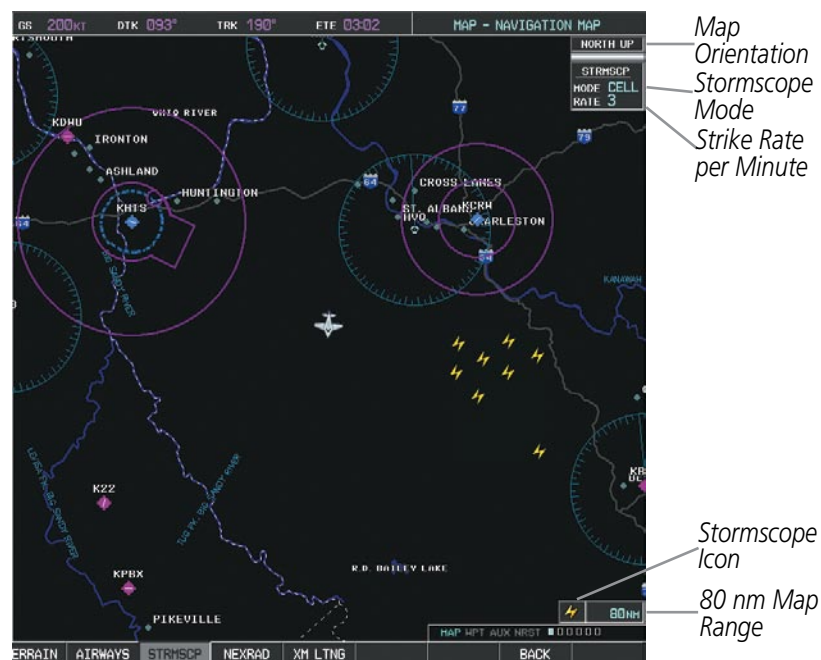

Figure 6-103 Navigation Map Page with Stormscope Lightning Data
- 7) Press the **FMS** Knob to return to the Navigation Map Page (Figure 6-103).
On the Navigation Map, cell mode identifies cells of lightning activity (Figure 6-103). Stormscope identifies clusters of electrical activity that indicate cells. Strike mode indicates the approximate location of lightning strikes.